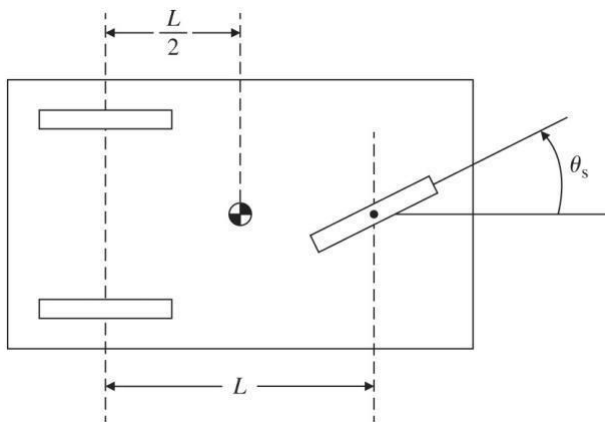

Figure 2.46: Model for robot motion
10. Determine the dynamic equations for lateral motion of the robot in Fig. 2.45. Assume it has 3 wheels with the front a single, steerable wheel where you have direct control of the rate of change of the steering angle, U_{steer} , with geometry as shown in Fig. 2.46. Assume the robot is going in approximately a straight line and its angular deviation from that straight line is very small. Also assume that the robot is traveling at a constant speed, V_0 . The dynamic equations relating the lateral velocity of the center of the robot as a result of commands in U_{steer} is desired. .